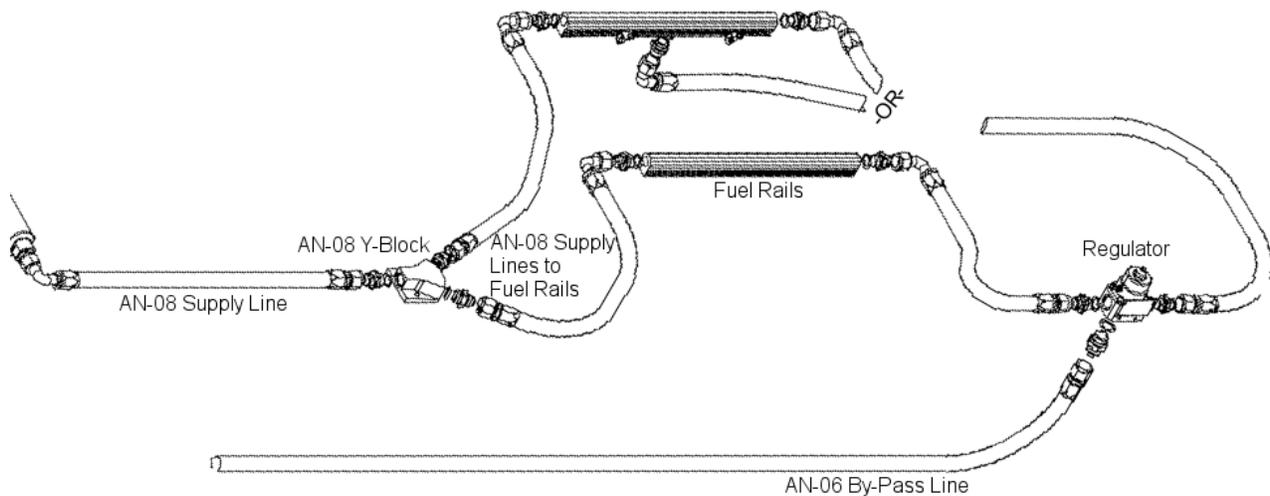

Figure 3-3
- 3-14. Starting from the outlet of the fuel filter, plan a route to run an AN-08 supply line from fuel filter to the Y-block, see figure 3-3, this line should be run along the same route you planned to run the return line in step 1.27. Cut the supply line to the determined length and install the AN-08 hose ends, as detailed in Section 4.
- 3-15. Using the above steel braided hose assembly, connect one end to the outlet of the fuel filter. Keeping both the supply line and return line from the Aeromotive fuel tank together, secure both lines to the vehicle along the predetermined route using the supplied tie-wraps. Once both lines are routed, the supply line to the Y-block and the return line to the bottom of the regulator, as shown in figure 3-3, tighten all fittings.